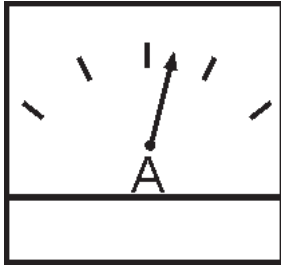

Figure 61. Ammeter (Load)
23. Observe the generator's ammeter (Figure 61) and verify it reads the anticipated amount of current with respect to the load. The ammeter will only display a current reading if a load is in use.